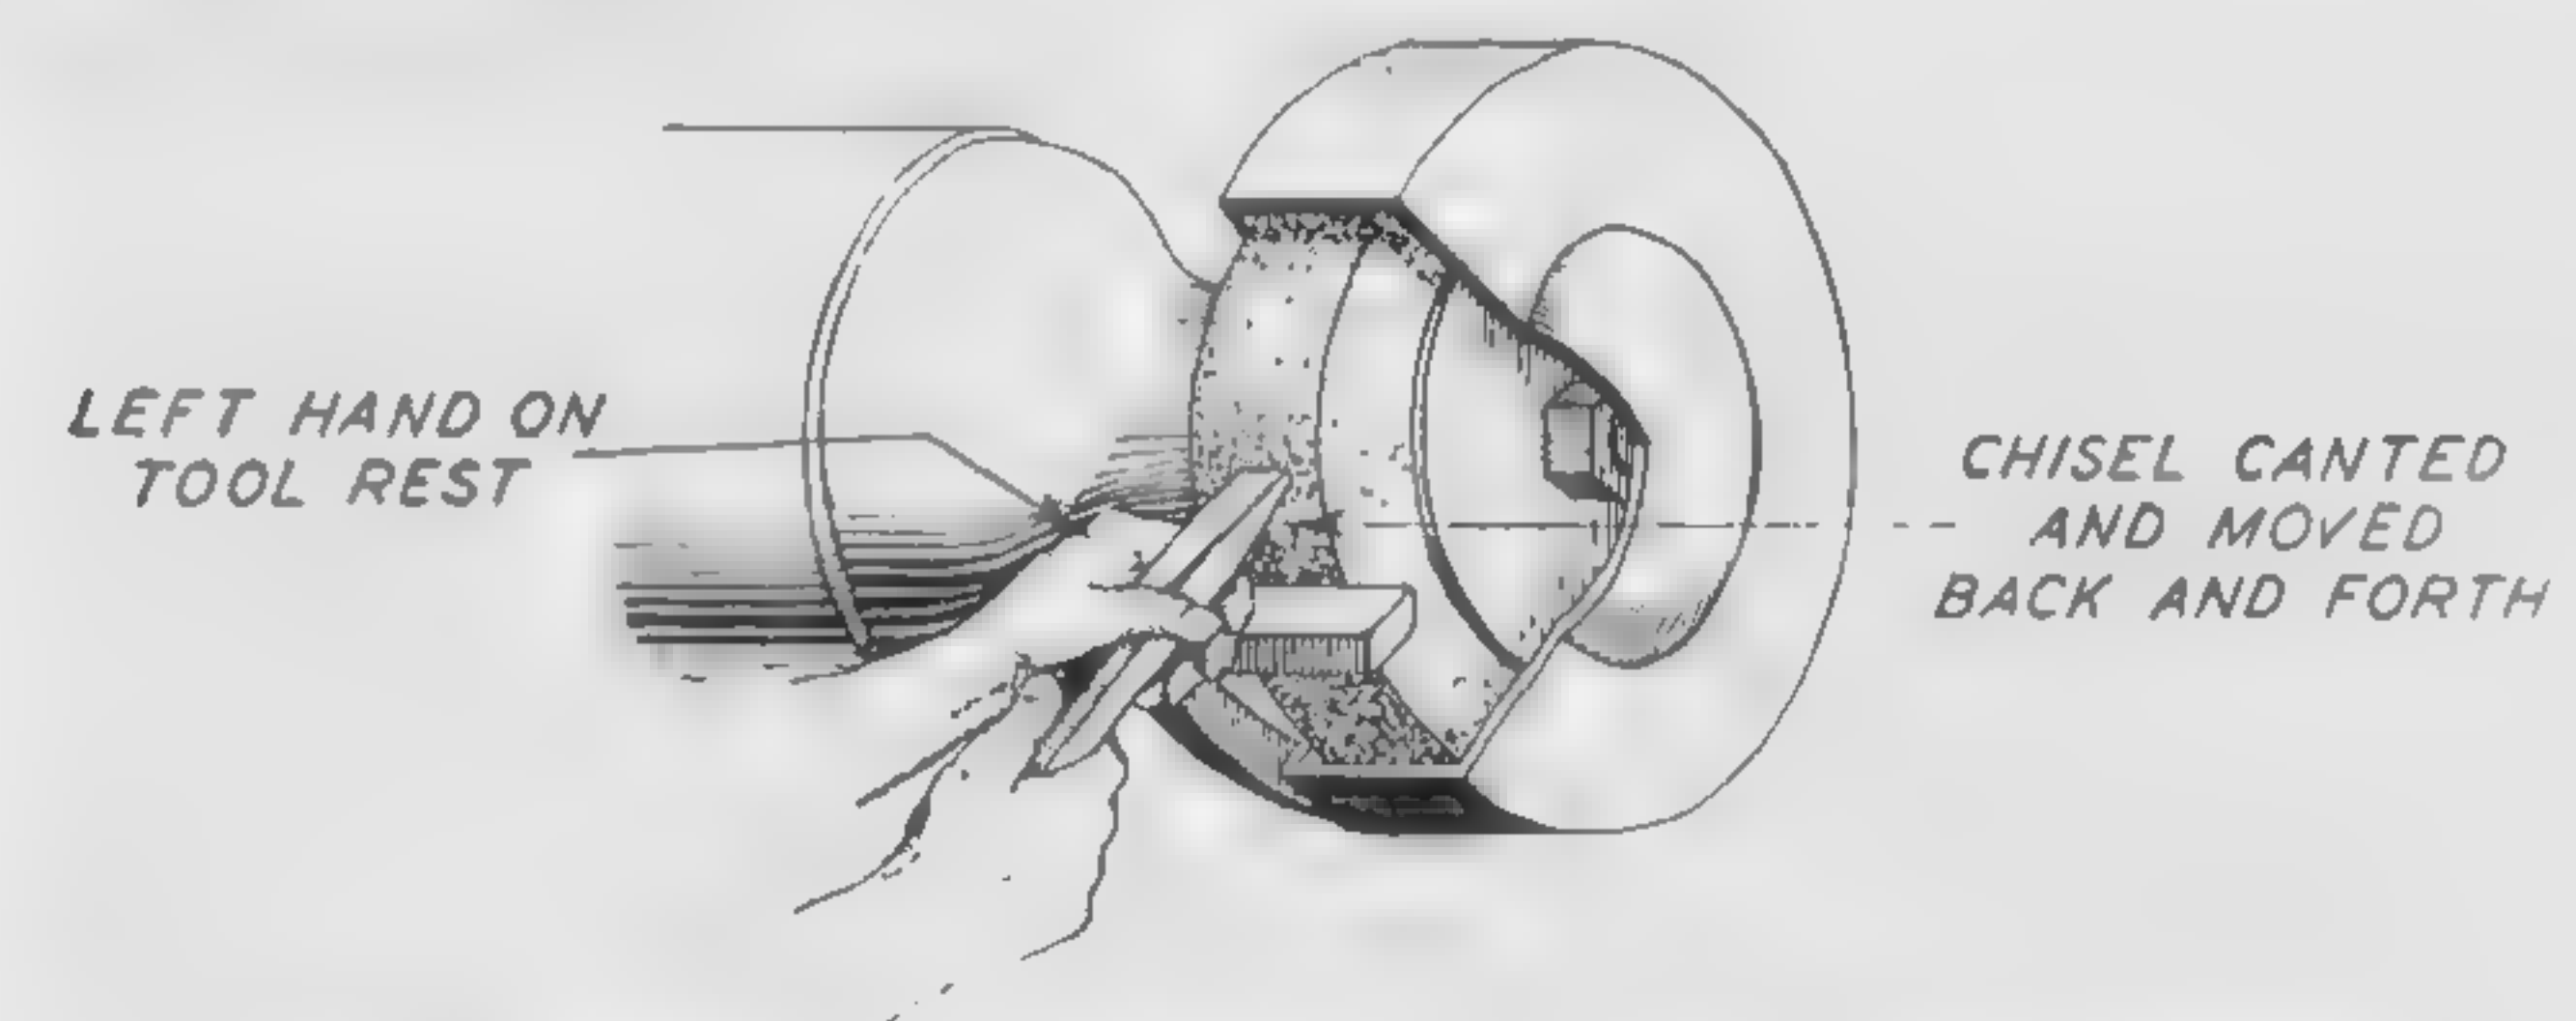

Fig. 2. Correct Way to Hold a Cold Chisel When Grinding
1. Hold chisel, as shown in Fig. 2, with left hand resting on the tool rest.